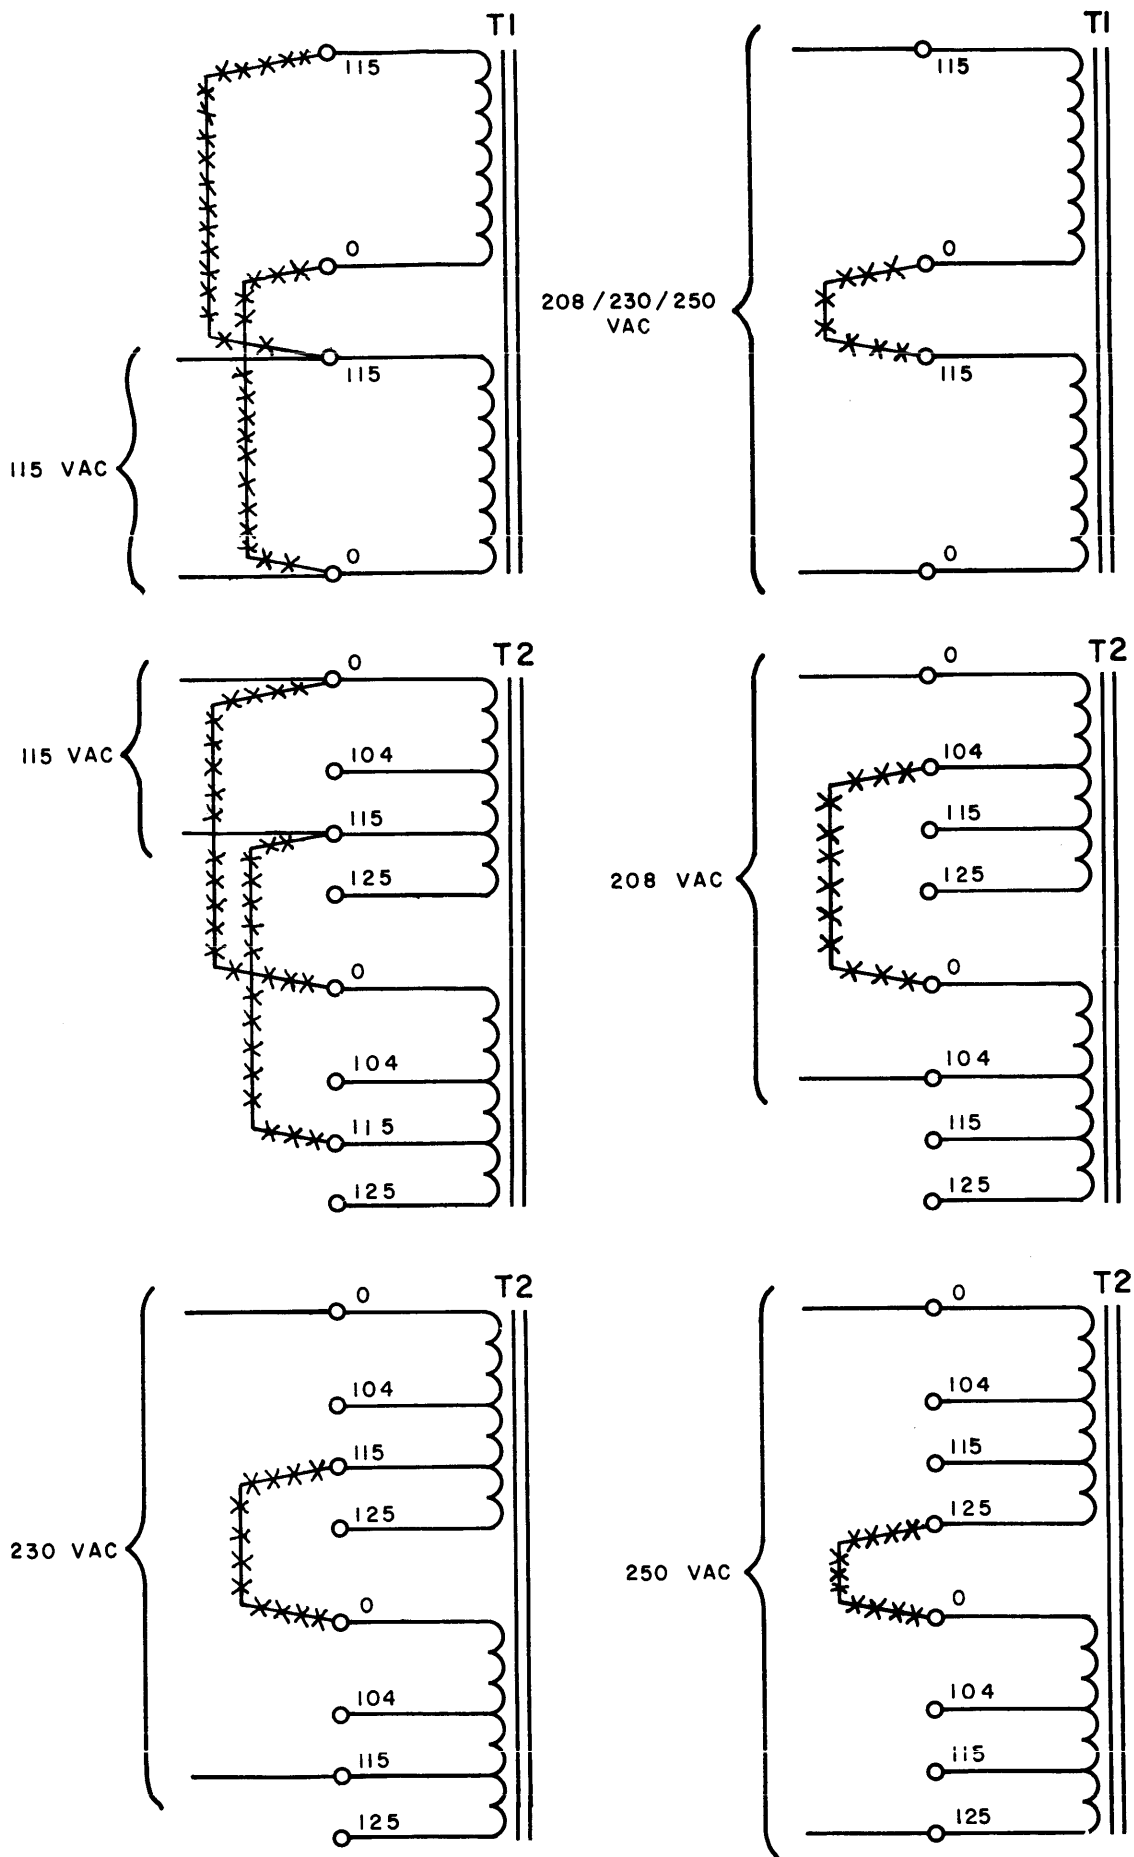

FIGURE 2-1 POWER TRANSFORMER WIRING
The SMR-5 can operate with 115 Vac, 208 Vac, 230 Vac, or 250 Vac power. If an SMR-5 wired for operation for one ac power source is to be operated from a different ac power source, the wiring of transformers T1 and T2 in the power supply assembly must be modified. Figure 2-1 illustrates the wiring of T1 and T2 for all possible ac power inputs. For operation from 115 Vac, fuse F2 must be 1/2A and fuse F1 must be either 2A (for units with 6 or 8 HFO ovens) or 1A (2 or 4 HFO ovens). For operation from 208 Vac, 230 Vac, or 250 Vac, F2 must be 1/4A and F1 must be either 1A (6 or 8 HFO ovens) or 1/2A (2 or 4 HFO ovens).
j. **POWER SUPPLY** – The primary ac power input is provided to the power supply from pins A and C of J17. The input is applied to the primary windings of transformers T1 and T2 through power switch S5 and fuses F1 and F2. The output from T1 is a 12 Vac oven supply which is provided to the HFO oven in the TTRR module through OVEN SUPPLY ON/OFF switch S6. Figure 2-1 shows the jumper connections at the primary windings of T1 and T2 for all possible ac inputs. Transformer T2 produces two outputs. One of these is a 12 Vac signal that is applied to power lamp DS2. The second is an 18 Vac signal which is applied to the rectifier board. Here it is rectified by CR1 - CR2 to a 26 Vac (no load) unregulated output and applied to regulator U1. The output from U1 is a regulated +12 Vdc signal which is returned to the rectifier board through fuse F3 for distribution throughout the SMR-5.